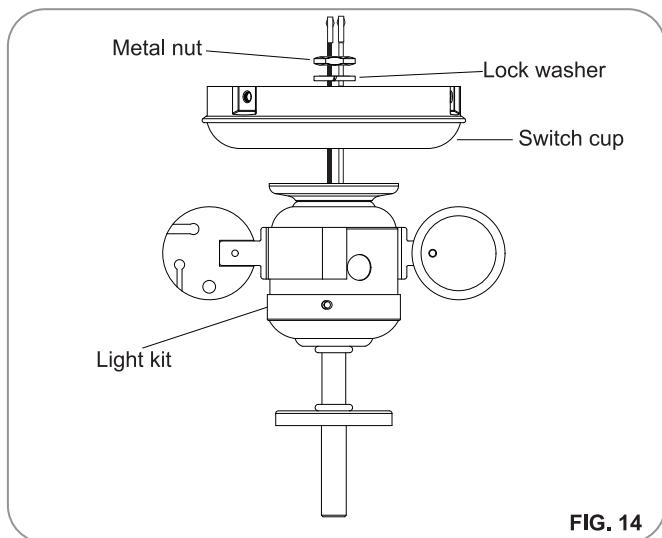

FIG. 14
Step 1. Disassemble the switch cup from the light kit. You can keep the light kit for future use. (Fig.14)